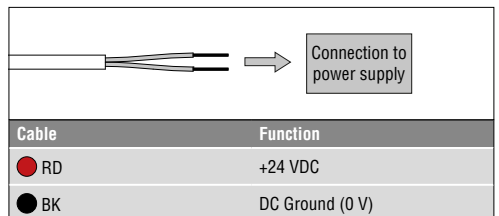

Fig. 12: Connecting the pig-tail to power supply
Connect the cable ② to a power supply unit according to the pin assignment in Fig. 12.